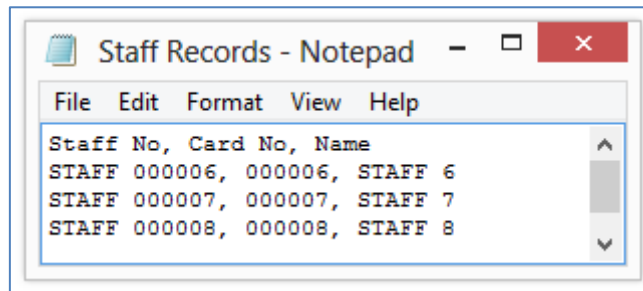

Figure 77 - Staff Records.txt
1. Create your staff record using Text File (Refer **Figure 77**) or Microsoft Excel (Refer **Figure 78**).